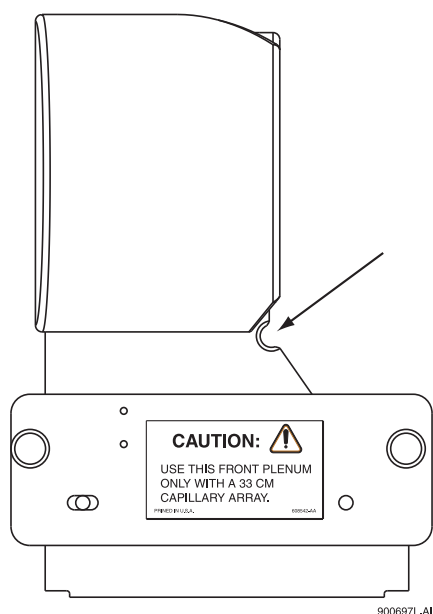

Figure 9.37 Plenum Assembly - Capillary Routing Hole
14. Replace the plenum assembly and tighten the two captive screws (Figure 9.37).